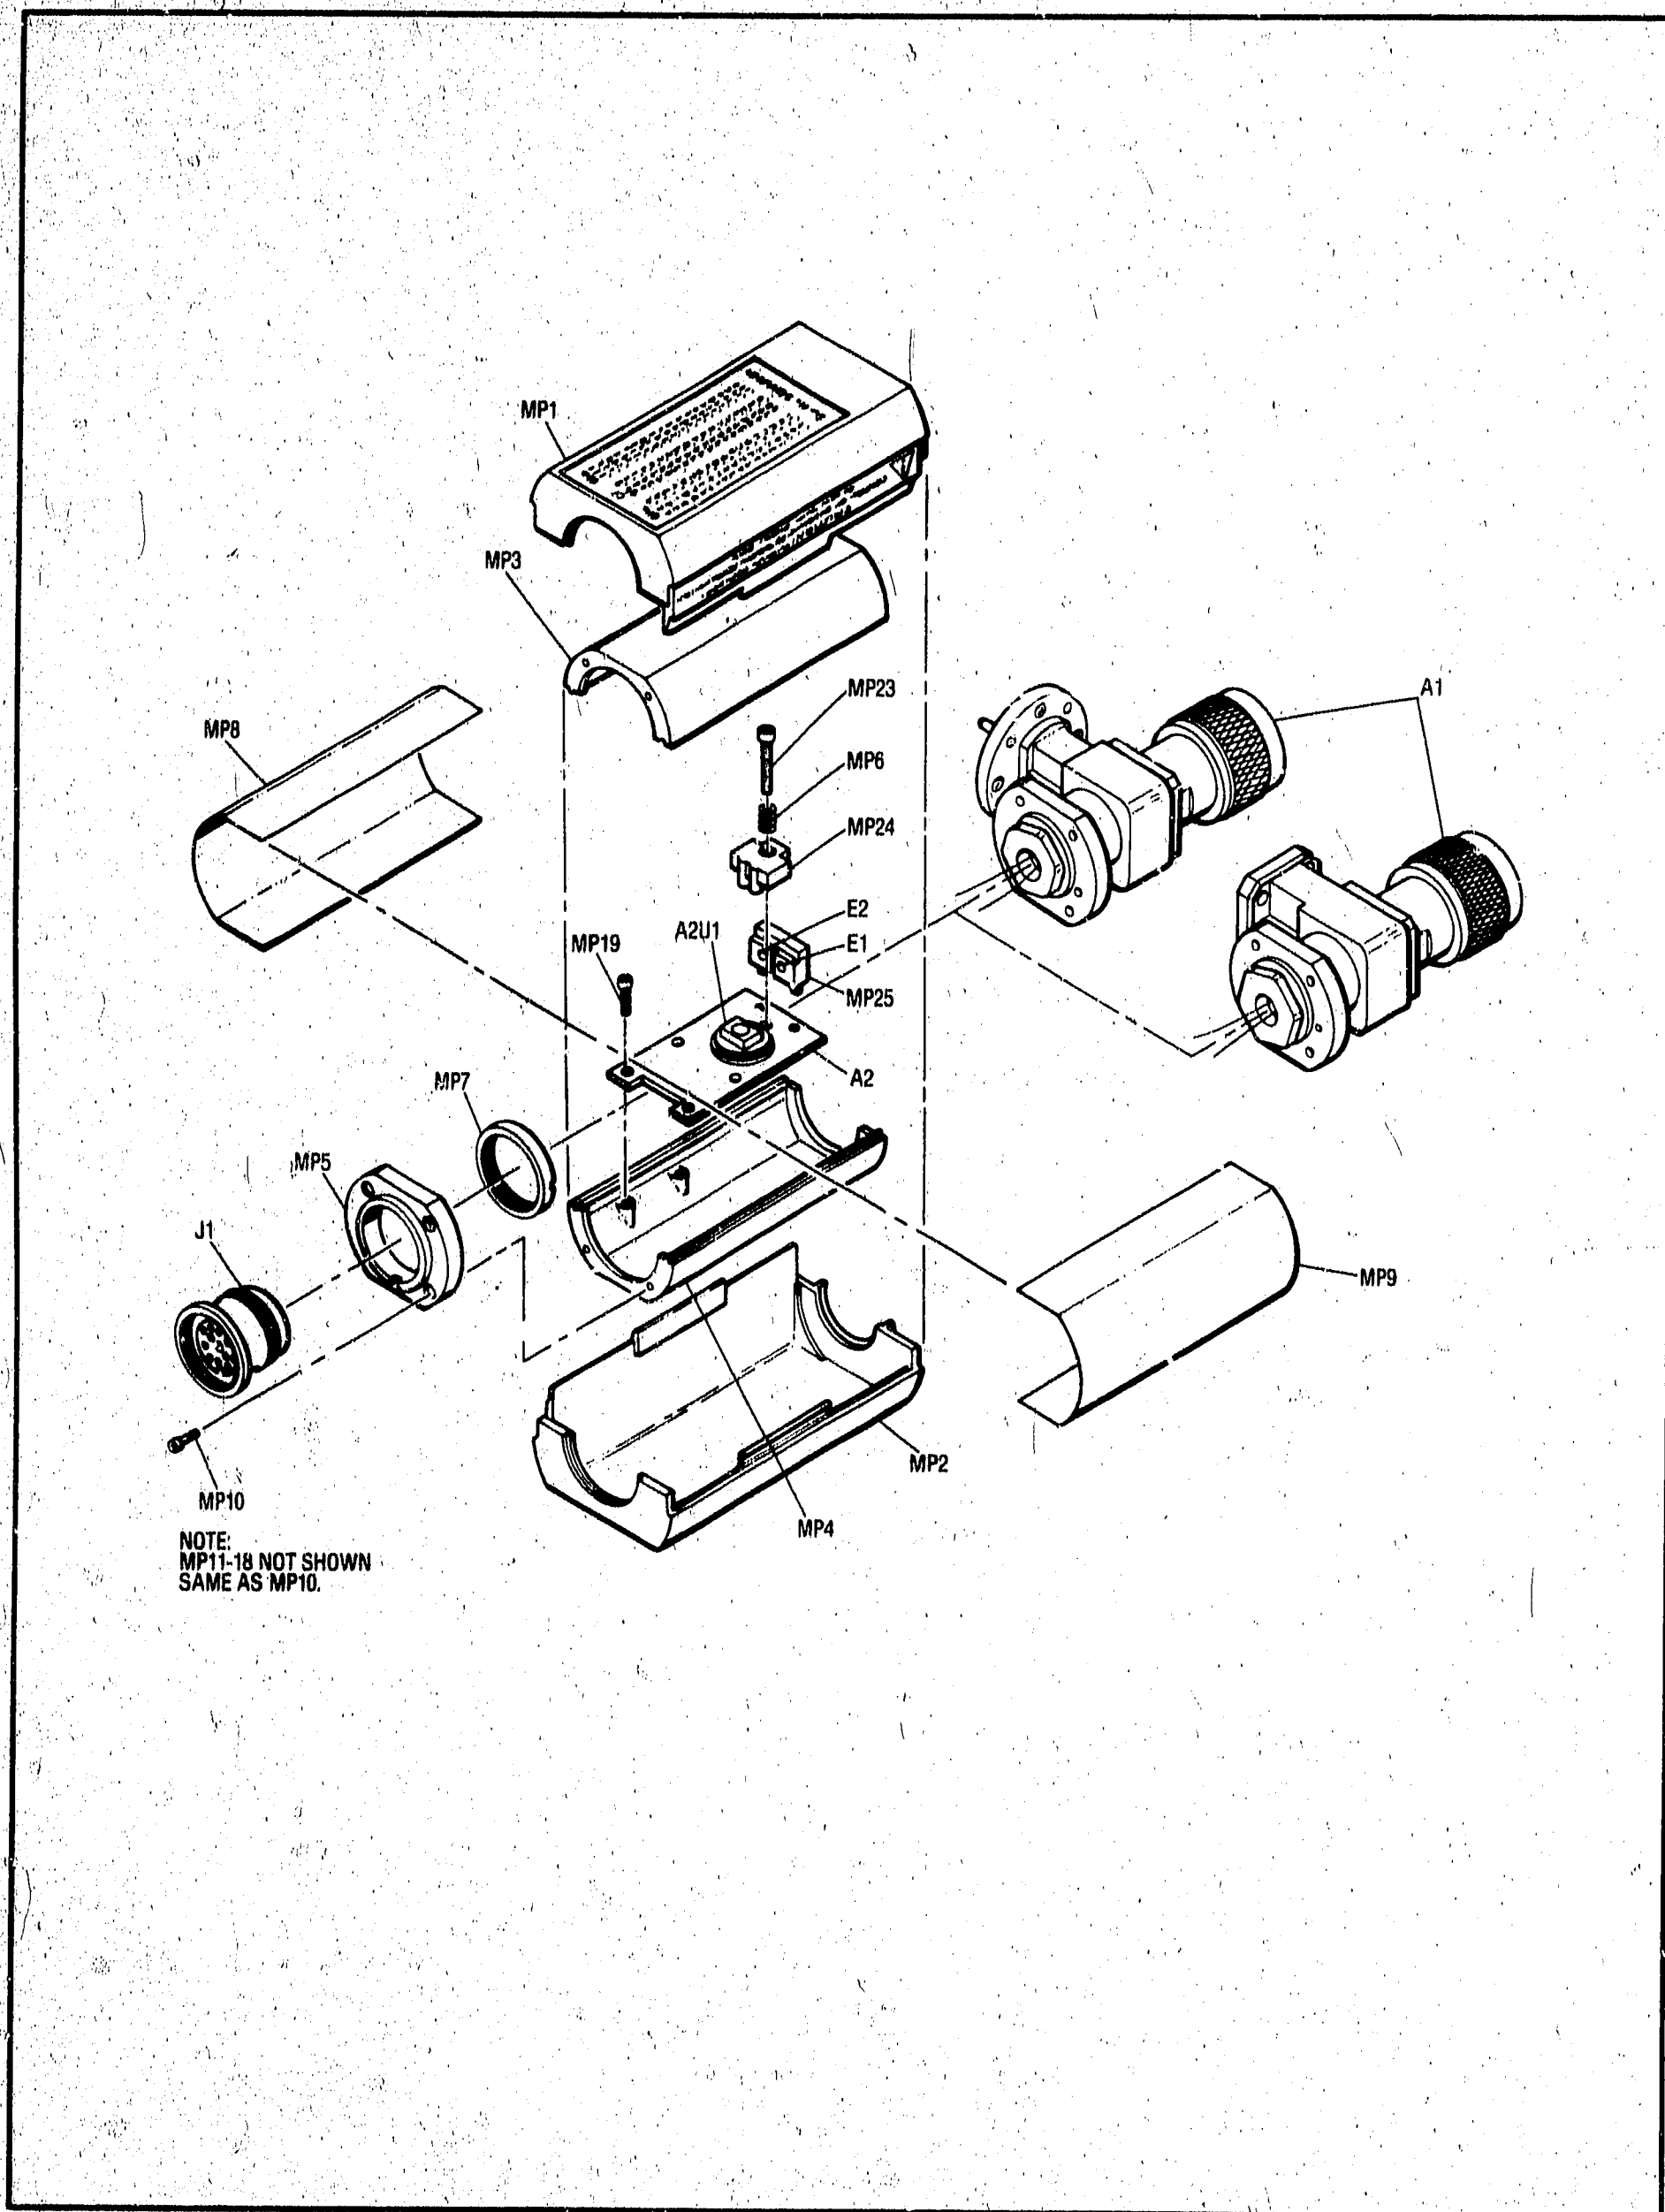

Figure 2. Illustrated Parts Breakdown
Table 6 is a list of replaceable parts. Figure 2 is the illustrated parts breakdown (IPB) that identifies the major assemblies and chassis parts. The mounting locations of the components on the A2 Input Amplifier Assembly are shown in Figure 3. To order a part, quote the Hewlett-Packard part num-
The rf signal is absorbed by the thermocouples¹ which generate a dc voltage proportional to the rf input power. The dc voltage is routed from the thermocouples to the input amplifier on gold wires to reduce undesired thermocouple effects. The gold wires pass through ferrite beads A2E1 and A2E2 which are located in the black plastic block. (See Figure 2). The ferrite beads increase the self-inductance of the gold wires causing this portion of the wires to provide the properties of an rf choke. The result is to minimize rf feedthrough to the A2 Input Amplifier Assembly.
b. Insert cap screws (8), (9), (11), (12), (14), and (15) but do not tighten.
c. Center A2 circuit board so there is equal air gap between each side and chassis. Tighten cap screws (8), (9), (14), and (15).
d. Remove black plastic block (17) from printed circuit board. Position bulkhead assembly with small hole (5) on your left; position block (17) with flat side towards bulkhead assembly (grooved side out), and guide pins down. Insert gold wires through holes in block (17) (MP25, Figure 2).
e. Set bulkhead assembly straight down on chassis. Mate two guide pins on block (17) with two holes in printed circuit board (Figure 2).